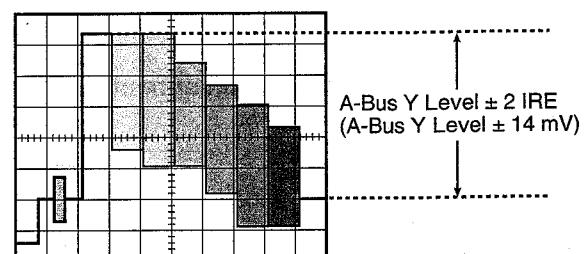

Fig. 4-4
- Adjust VR20 so that the White signal level becomes same level ± 2 IRE (± 14 mV) as A-Bus White signal level as shown in Fig. 4-4.